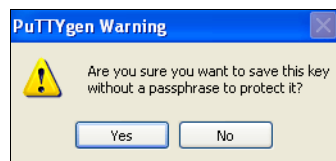

Figure A-5 Confirm the security warning
6. You are prompted with a warning message (as shown in Figure A-5). Click **Yes** to save the private key without a passphrase.